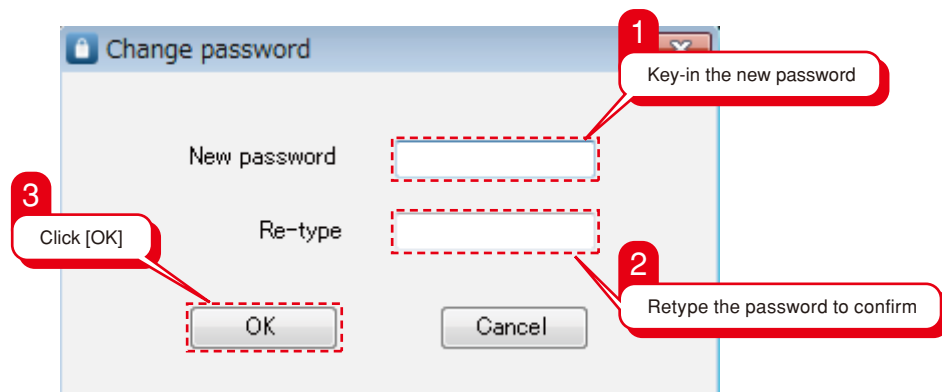

Figure 7-28. Change Password Window
- A window as shown in figure 7-28 will be displayed.